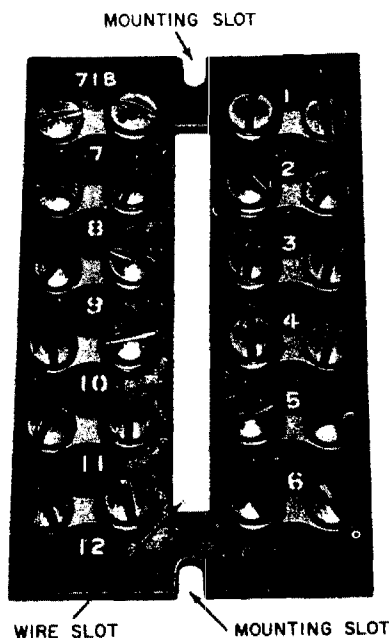

Fig. 1—71B Connecting Block
2.02 The 71-B connecting block (Fig. 1) is similar to the 71-A (MD) except it has mounting screw slots instead of holes. The connecting blocks consist of a phenol fabric base equipped with 12 double-screw terminals. The blocks are used for mounting in 113-type and 114A apparatus boxes for installation of panel telephone sets (Table A).